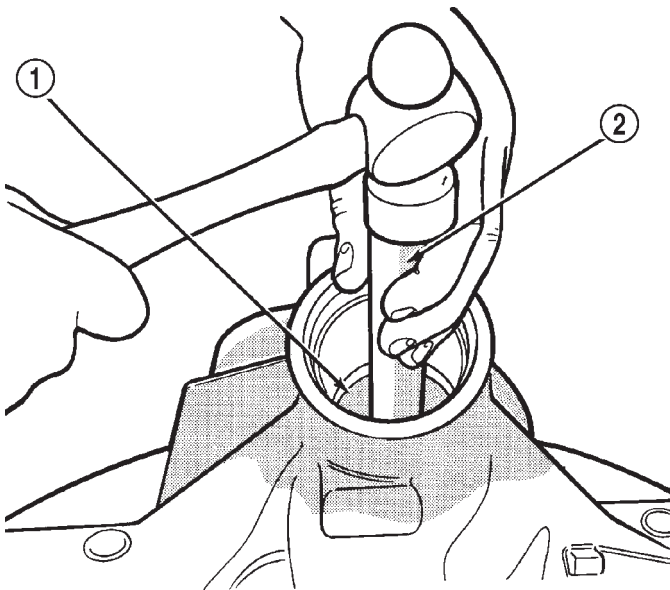

Fig. 27 Rear Bearing Cup Removal
- (11) Remove the rear bearing cup from housing (Fig. 27). Use Remover C-4307 and Handle C-4171.